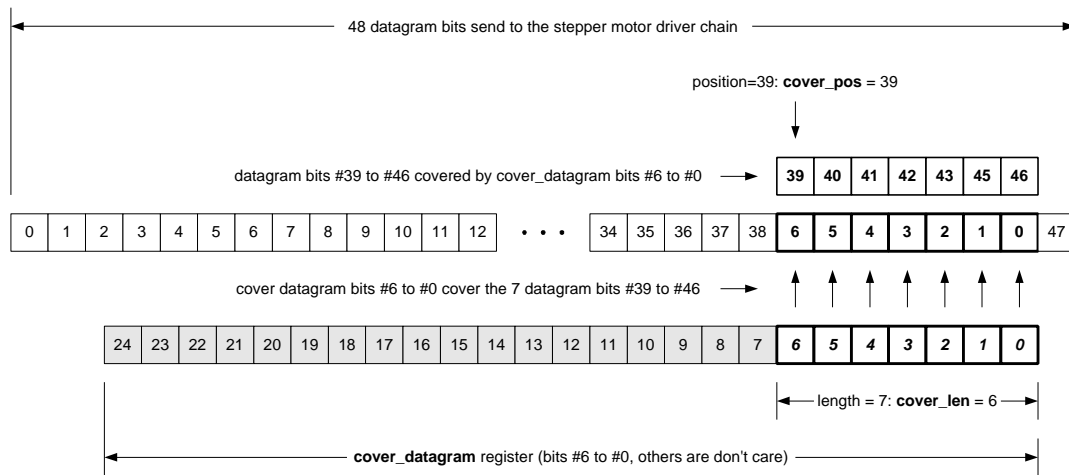

Figure 10: Cover Datagram Example
This register holds up to 24 bit of a cover datagram. A cover datagram covers the next datagram sent to the stepper motor driver chain. If no datagrams are sent to the drivers chain, the cover datagram is sent immediately. The status of the cover datagram is mapped to the status bits sent back with each datagram (see page 10, **CDGW**). This status bit is also available for readout of **cover_pos & cover_len (JDX=%0010)**, where **CDGW** the most significant data bit (23). An example for the cover datagram is given in Figure 10. In that example 7 bits cover 7 bits of a 48 bit datagram from bit number 39 to bit number 46.